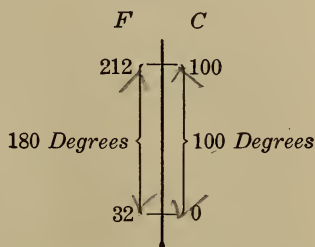

FIGURE 1.—FIXED POINTS ON THE CENTIGRADE AND FAHRENHEIT SCALES.
**5. Relation of the Two Scales.** — The relation between the two scales is shown in Figure 1. A little study of this figure will show you that an equal space is divided into 100 Centigrade degrees and 180 Fahrenheit degrees. This means that the C. degree is almost twice as large as the F. degree.